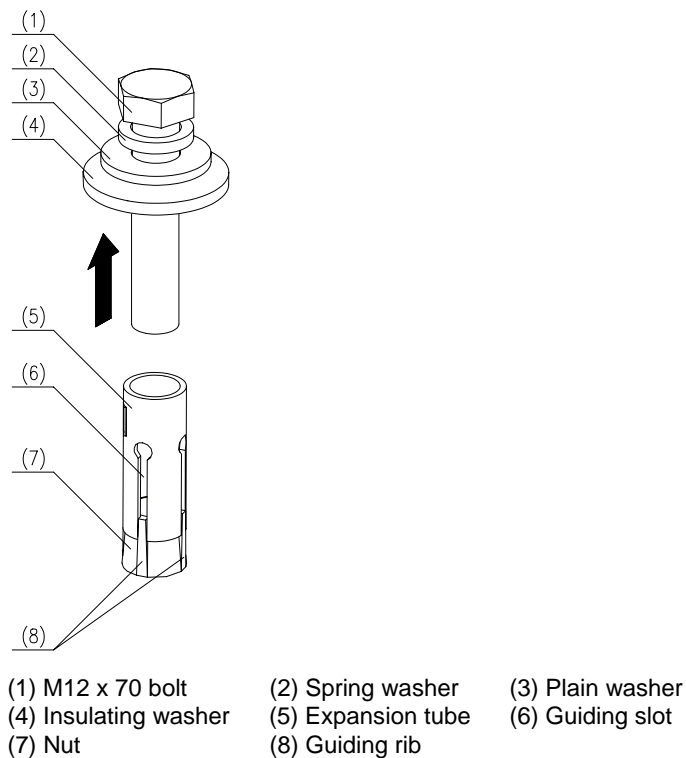

Figure 2-7 Disassembling an expansion bolt
- 4) Take off the M12 \times 70 bolt, spring washer, plain washer, and insulating washer, as shown in Figure 2-7.